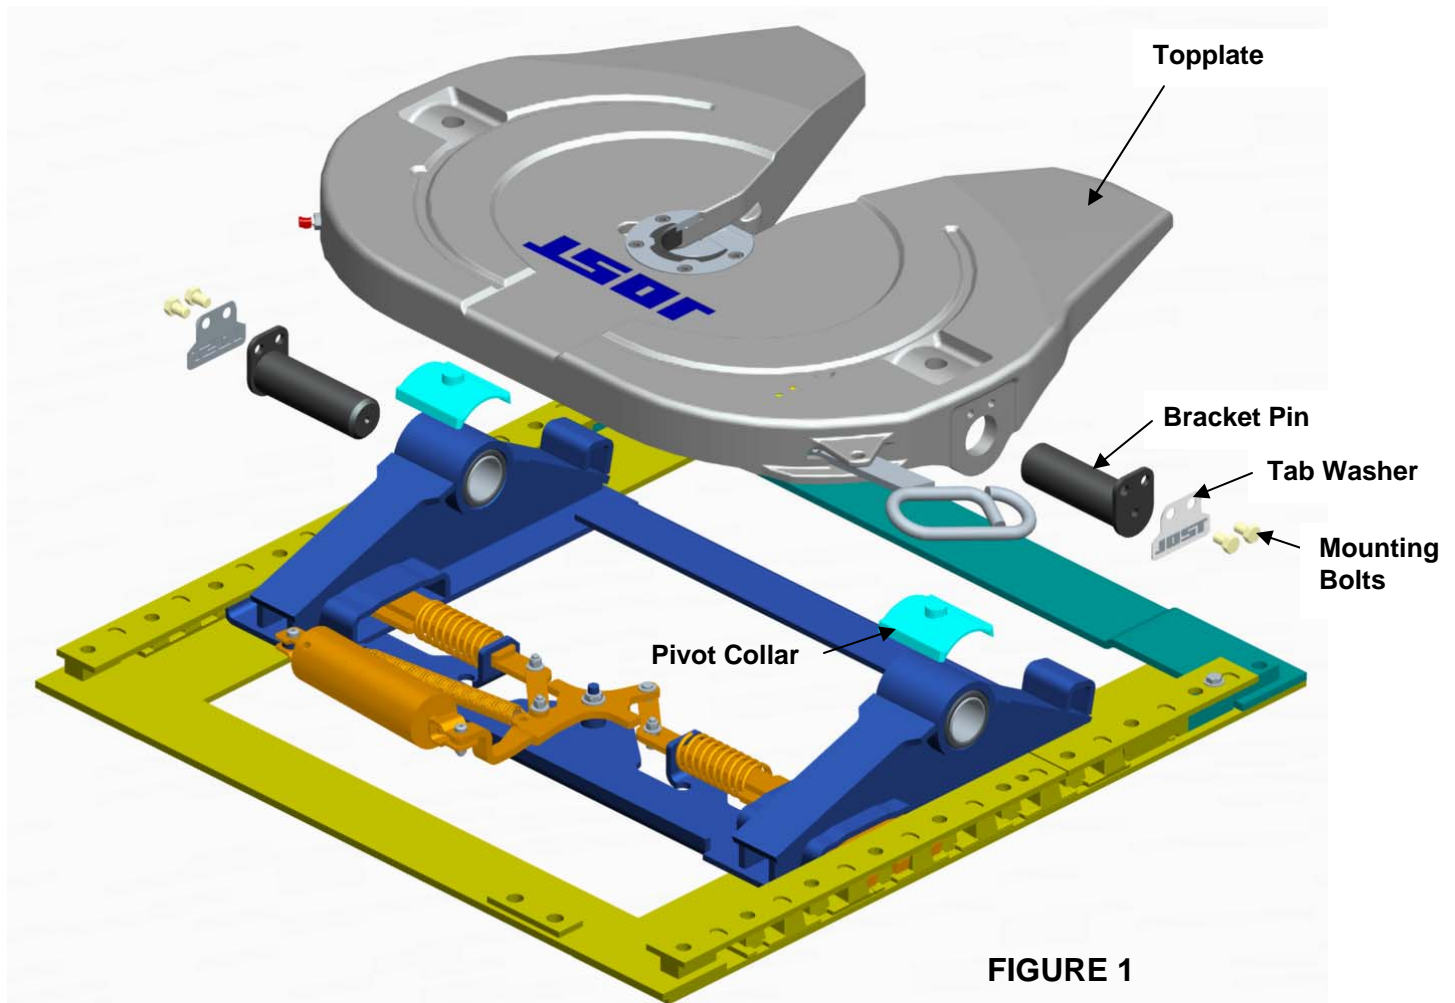

FIGURE 1
- a) Straighten the tab washers (see figure 1) securing the mounting bolts.